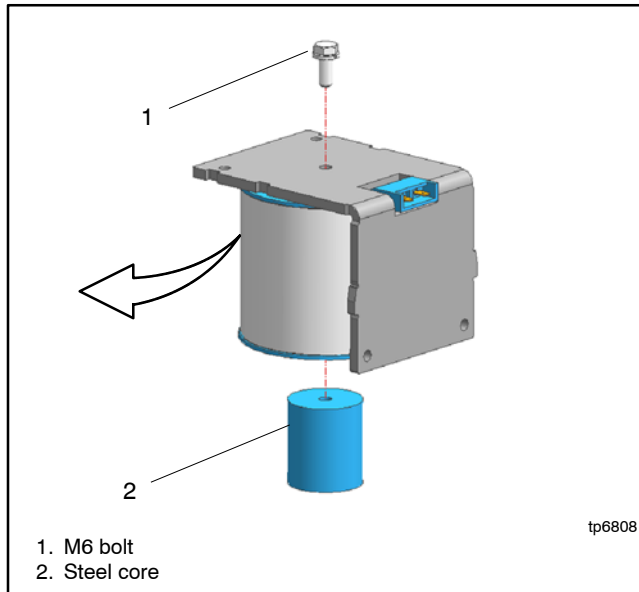

Figure 7-57 Coil Removal
3. Remove the M6 bolt holding the steel frame and the steel core. Remove the coil from the steel frame. See Figure 7-57.